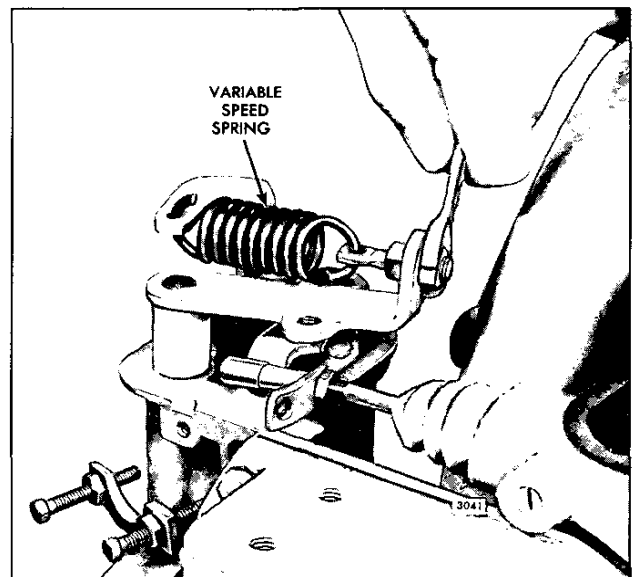

Fig. 2 - Adjusting Governor Spring Eyebolt
1. Adjust the variable speed spring eyebolt until $1/8$ " of the threads project from the outer locknut (Fig. 2). This setting of the eyebolt will produce approximately 7% droop in engine speed from no load to full load.